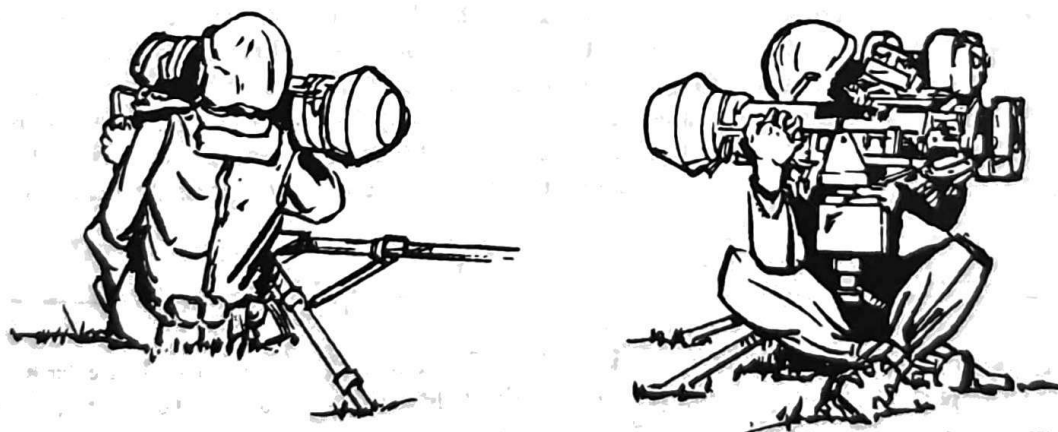

Figure 7-10. M3 or M122 tripod positions.
b. Demonstrate the position for the M3 or M122 tripods, then have the soldiers assume the position (Figure 7-10).